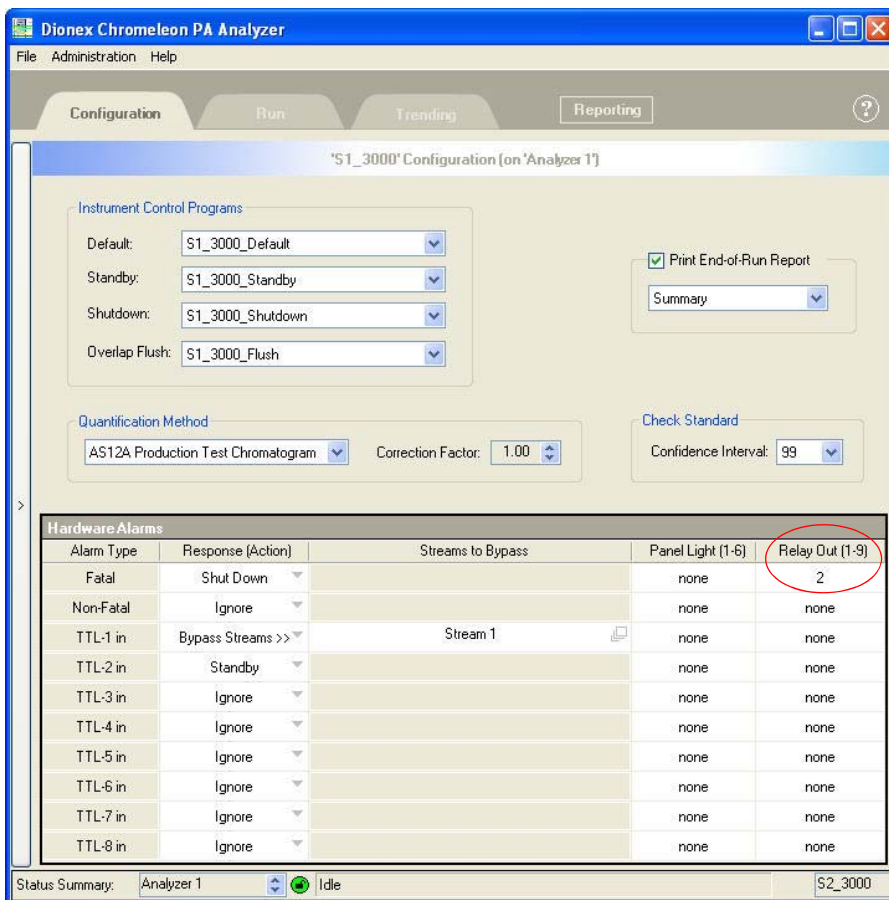

Figure 5-10. Chromeleon PA Analyzer System Configuration Page
- In Chromeleon PA Analyzer, specify a relay to turn on a tower light if a hardware alarm occurs. Specify the relay in the **Hardware Alarms** table on the **System Configuration** page (see Figure 5-10). For example, to turn on the red light when a fatal hardware alarm occurs, enter **2** under **Relay Out (1-9)** in the **Fatal** row.
in the analyzer configuration (see Figure 5-10). For example, to turn on the yellow light when a result-based event occurs, enter **3** under **Relay Out (1-9)**.